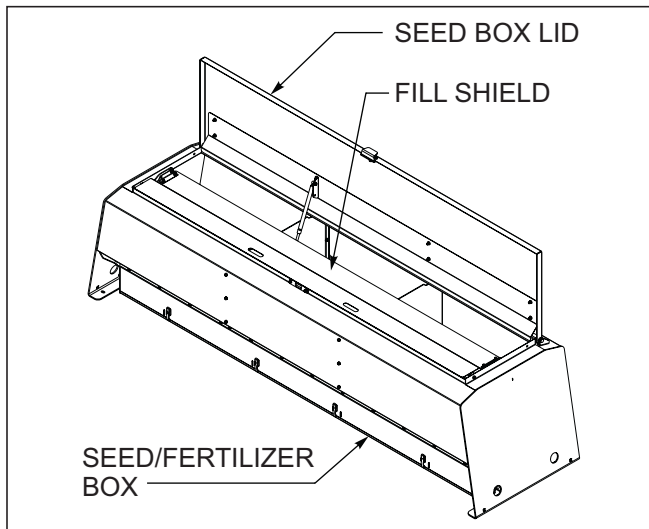

Figure 4-14: Fill Shield in the Closed Position
3. When using both seed and dry fertilizer, fill the seed box keeping fill shield in closed position over fertilizer box **See Figure 4-14.**